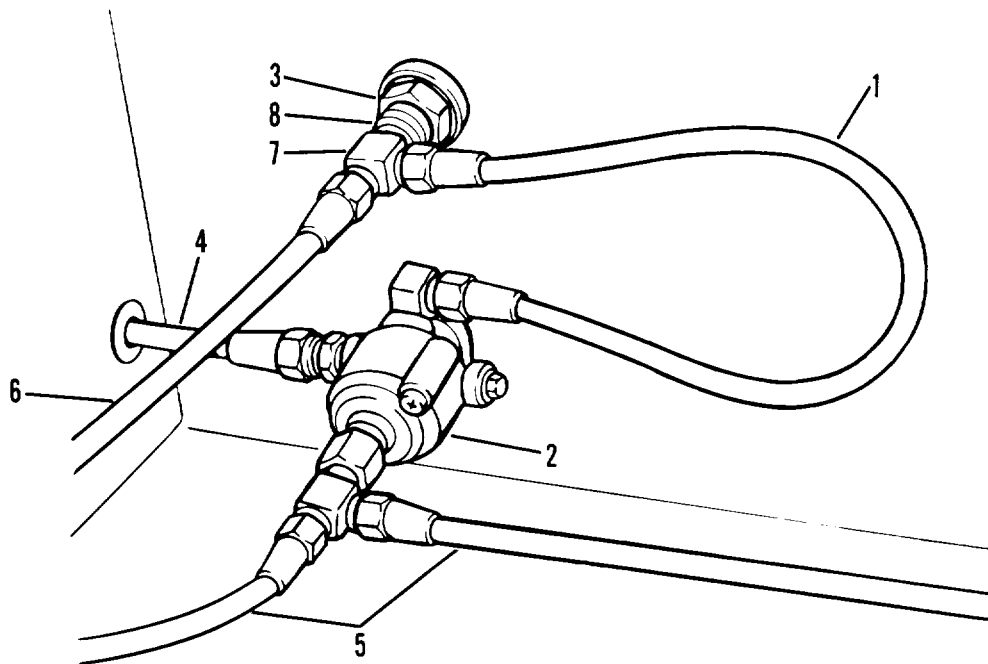
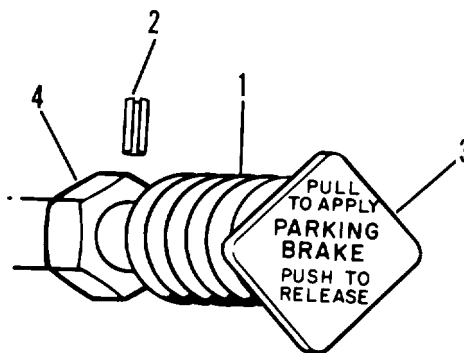

Figure 4-28. Parking brake and air charging system control valves
Figure 4-29. Parking brake control valve
- (1) Tag and disconnect air line (1, figure 4-28) between parking brake control valve (2) and air charging system control valve (3).
- (2) Tag and disconnect air lines (4 and 5) on parking brake control valve (2).
- (3) On the outside of the semitrailer, pull boot (1, figure 4-29) away from frame rail until roll pin (2) is visible. Remove roll pin (2).
- (4) Remove control valve handle (3) and boot (1).
- (5) Remove locknut (4).
(7) Remove parking brake control valve assembly (2, figure 4-28) from behind frame rail.
(1) Install parking brake control valve assembly (2, figure 4-28) from behind frame rail.
(2) Install locknut (4, figure 4-29) from outside of frame rail.
- (3) Install boot (1) and control valve handle (3).
- (4) Align holes in control valve handle (3) and install roll pin (2). Make sure roll pin (2) is centered.
- (5) Pull end of boot (1) on the flange of locknut (4).
- (6) Connect air line (4 and 5, figure 4-28) on parking brake control valve (2).
- (7) Connect air line (1) between parking brake control valve (2) and air charging system control valve (3).
- (8) Close drain cocks on air reservoirs.
- (9) Charge air system (para. 4-35).
- (2) Tag and disconnect air line (6) from air charging system control valve (3).
- (3) Remove tee (7) and lockwasher (8).
- (4) Remove air charging system control valve (3).
- (1) Position air charging system control valve (3, figure 4-28) on frame. Install lockwasher (8) and tee (7).
- (2) Connect air line (6) to air charging system control valve (3).
- (3) Connect air line (1) between parking brake control valve (2) and air charging system control valve (3).
- (4) Close drain cocks on air reservoirs.